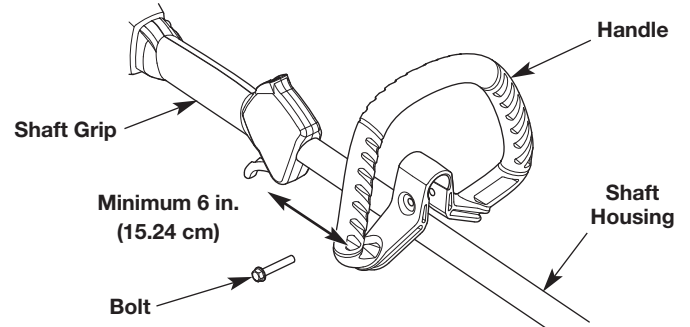

Fig. 3
1. Push the handle down onto the shaft housing (Fig. 3). The bolt hole in the handle should be to the right.
2. Insert the bolt into the bolt hole and push it through (Fig. 3). Tighten the bolt with a 3/8" socket, but do not tighten the bolt completely.
3. While holding the unit in the operating position (Fig. 13), move the handle to the location that provides the best grip. Place it a minimum of 6 inches (15.24 cm) from the end of the shaft grip (Fig. 3).
1. Loosen the bolt with a 3/8" socket (Fig. 3).
2. While holding the unit in the operating position (Fig. 13), move the handle to the location that provides the best grip. Place it a minimum of 6 inches (15.24 cm) from the end of the shaft grip (Fig. 3).